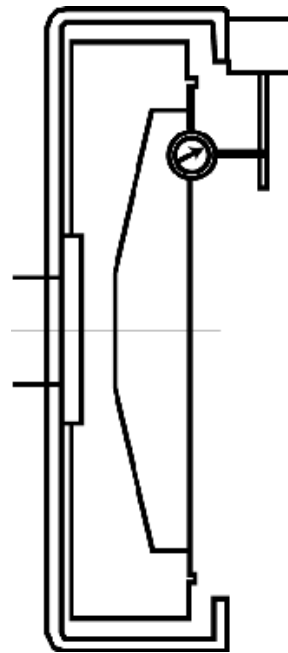

FIGURE 4
3.1.4 Check flywheel pilot bore runout. (See Figure 4)